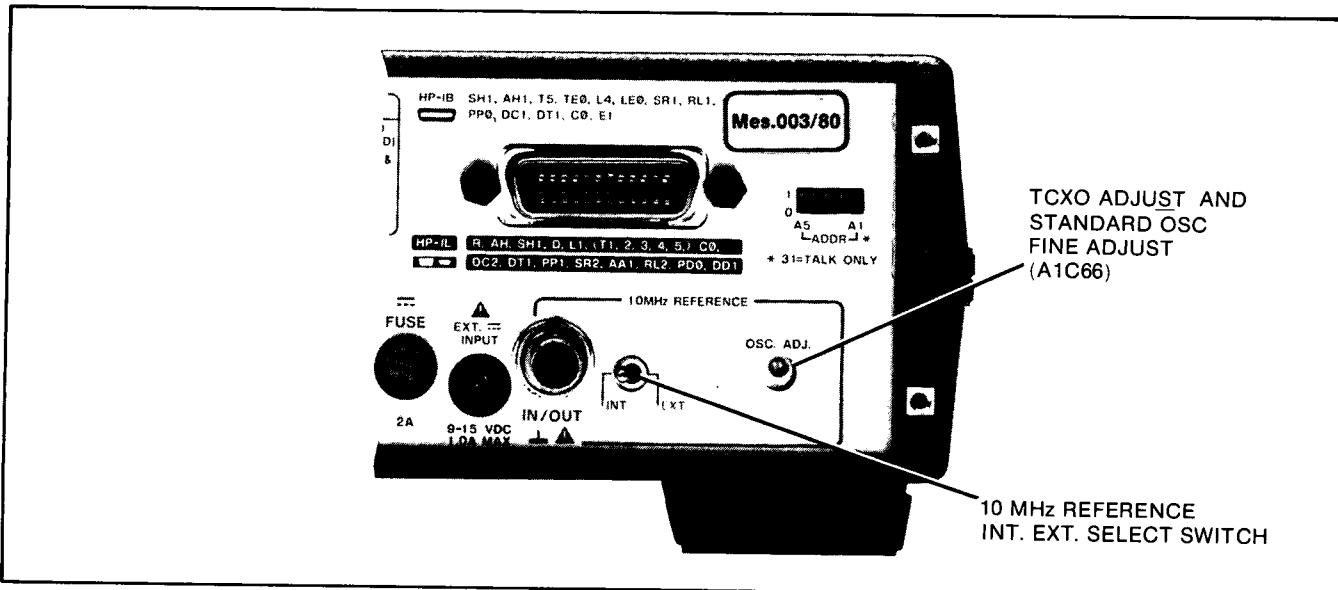

Figure 5-7. TCXO and Standard Oscillator Adjustment
- c. Select INT with the 10 MHz REFERENCE INT EXT select switch on the rear of the instrument (see *Figure 5-7*).
- d. Adjust the frequency for minimum sideways movement of the 10 MHz signal with the OSC ADJ located on the rear of the instrument (see *Figure 5-7*). For the Standard Oscillator, the same rear panel location is used to adjust A1C66, the standard oscillator fine adjustment capacitor. If A1C66 does not have enough range to minimize movement, adjust